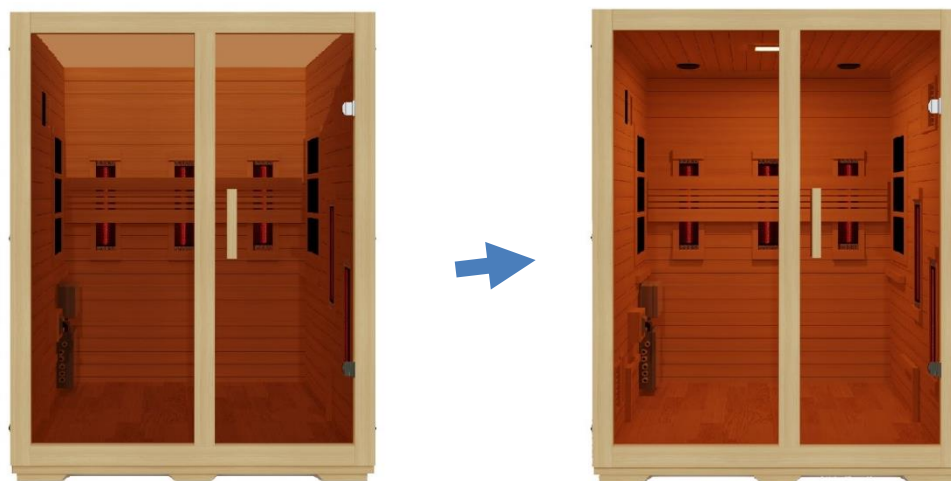

Figure 5
1. Locate the INNER ROOF PANEL. It will need to be lifted up and over the wall panels and placed into position resting on the supports of the wall panels. Use the provided screws and predrilled holes to screw down the INNER ROOF PANEL to the FRONT WALL PANEL and REAR WALL PANEL. (see Figure 5)